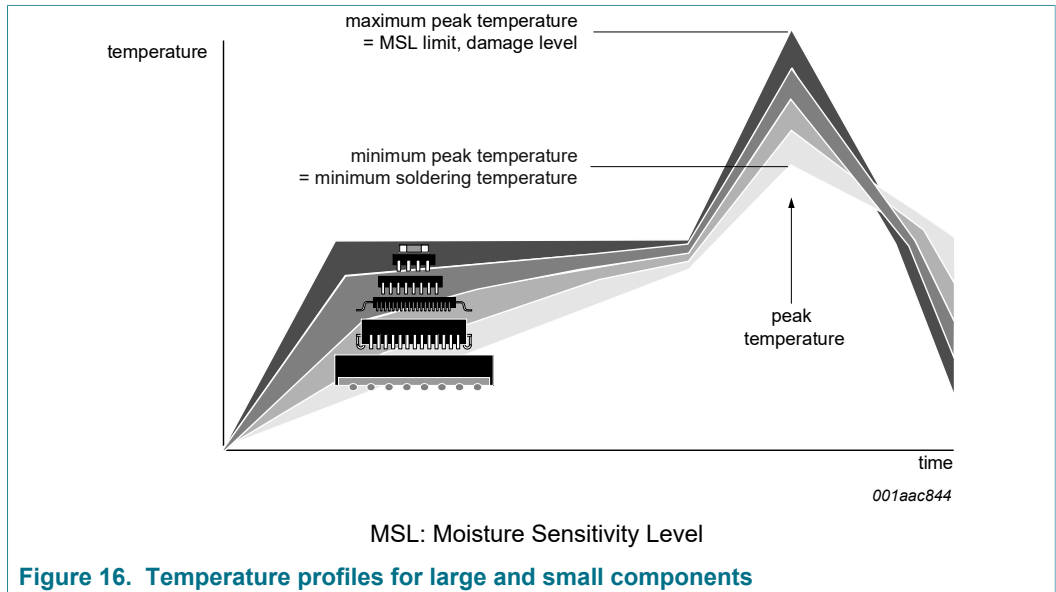

Figure 16. Temperature profiles for large and small components
- Lead-free versus SnPb soldering; note that a lead-free reflow process usually leads to higher minimum peak temperatures (see Figure 16) than a SnPb process, thus reducing the process window
Studies have shown that small packages reach higher temperatures during reflow soldering, see Figure 16.